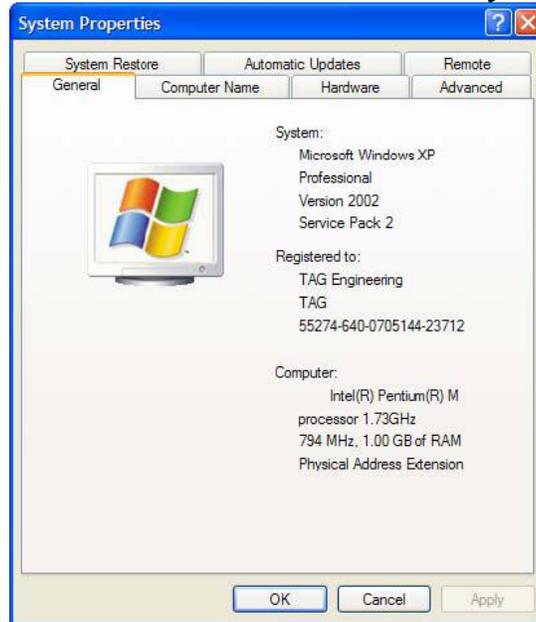

Figure 8-9 System Properties
2. Double-click the **System** icon. (Figure 8-9).